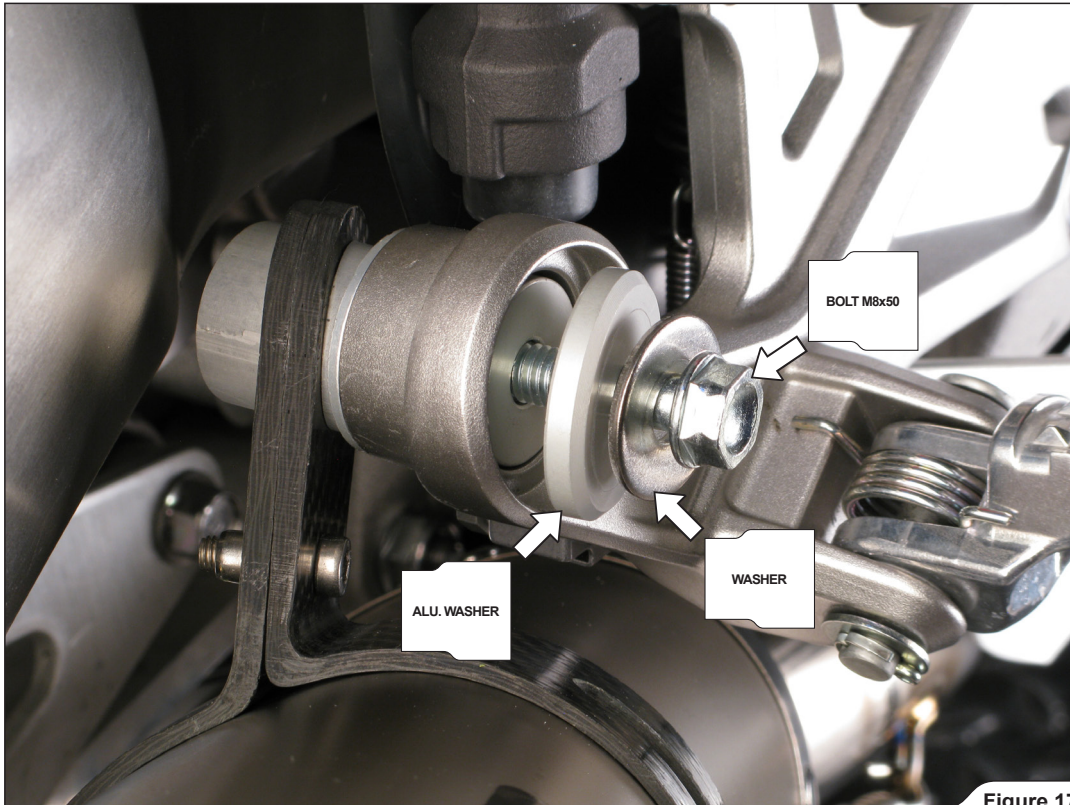

Figure 17
8. Hand tighten the clamp onto the muffler's bracket using bolt, washer and aluminium washer from Akrapovič installation kit (**Figure 17**).